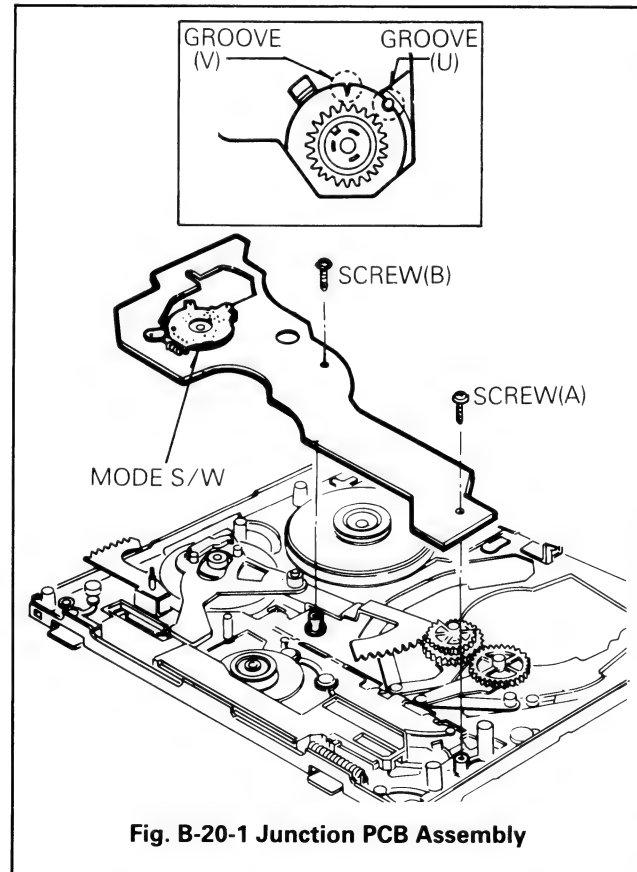

Fig. B-20-1 Junction PCB Assembly
20. Junction PCB(Printed Circuit Board) Assembly (Fig. B-20-1)